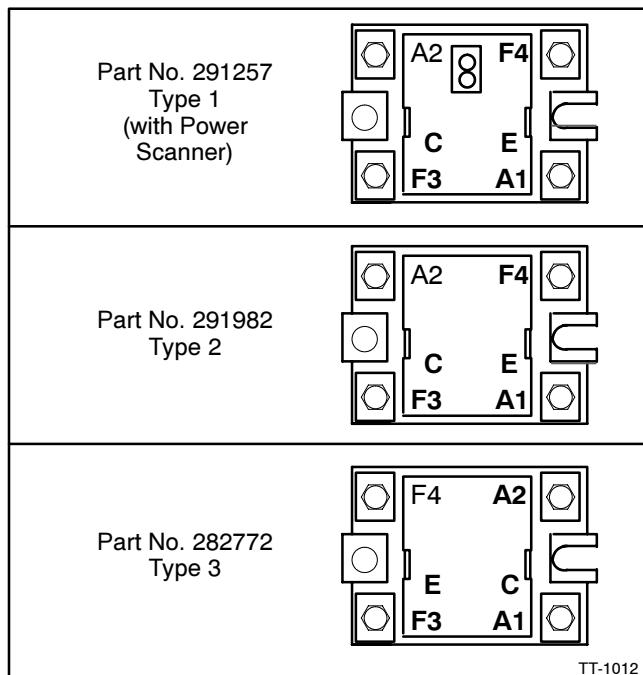

Figure 7 FR™ Activator Variations
Note: Terminals E and C were reversed on earlier versions of the FR™ activator. See Figure 7.
Note: Earlier versions of the FR™ activator had terminals F4 and A2 reversed. See Figure 7. Connect leads to terminal with the same terminal designation regardless of the terminal position.
- Before removing FR™ activator compare terminals with new SCR assembly. The leads may not reach SCR assembly terminals if mounted incorrectly. See Figure 7 for variations of the FR™ activator.